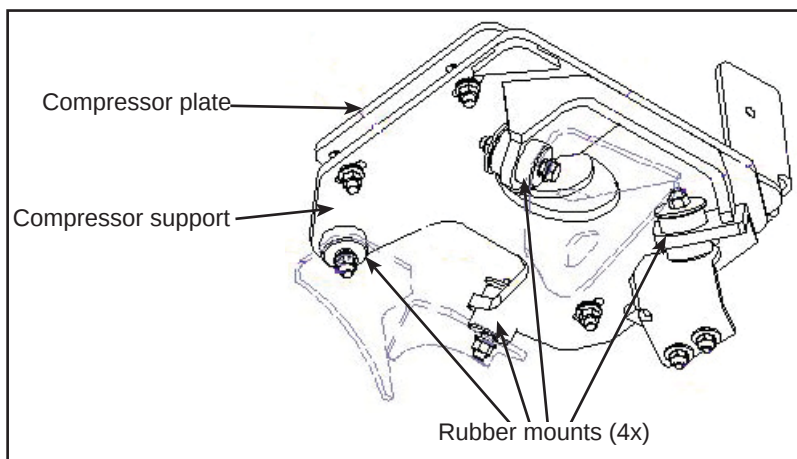

Figure 2 - A/C Compressor Support Rubber Mounts
- 1.4. Remove the four rubber mounts on the A/C compressor support. See Figure 2. Discard the rubber mounts. Retain the remaining hardware.